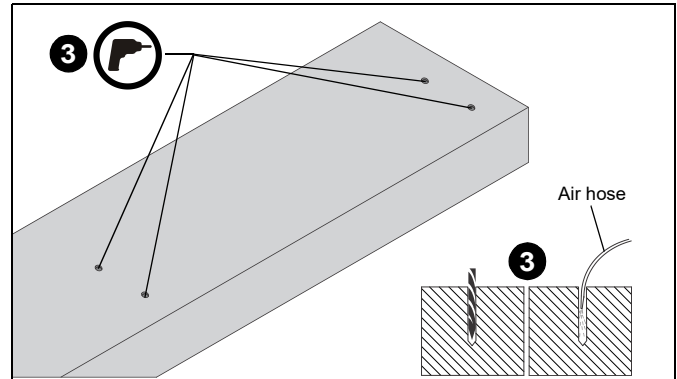

Figure 3
3. Hammer drill 5/16" diameter x 3-1/4" deep hole at each marked cable anchor support location (See Figure 3). Ensure hole is at least 3" from nearest concrete edge. Remove debris from hole. (See Figure 3)